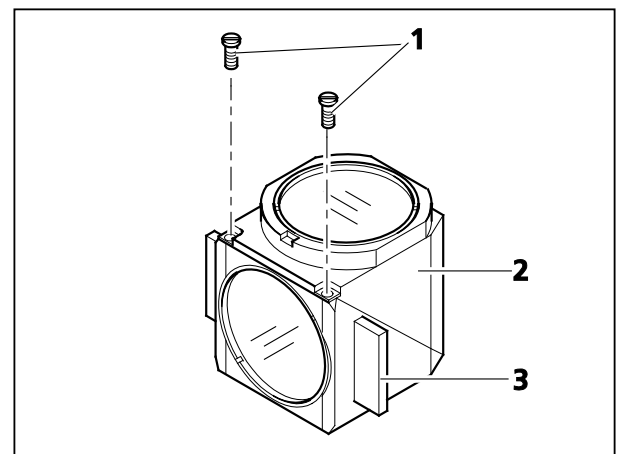

Fig. 22 Changing the beam splitter
- Unscrew the two slotted screws (Fig. 22/1) with a screwdriver.
- Hold both halves of the reflector module together (**emission** half (Fig. 22/2) and **excitation** half (Fig. 22/3), turn to the position opposite the installation position and put it down.